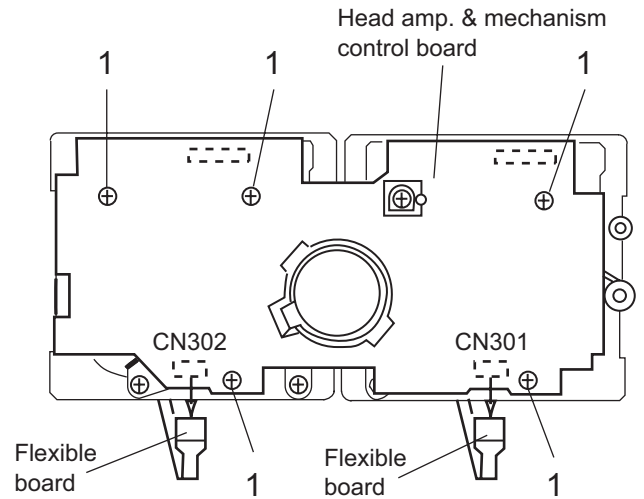

Fig.7
3.4.3 Removing the head amplifier & mechanism control board (See Fig. 7)